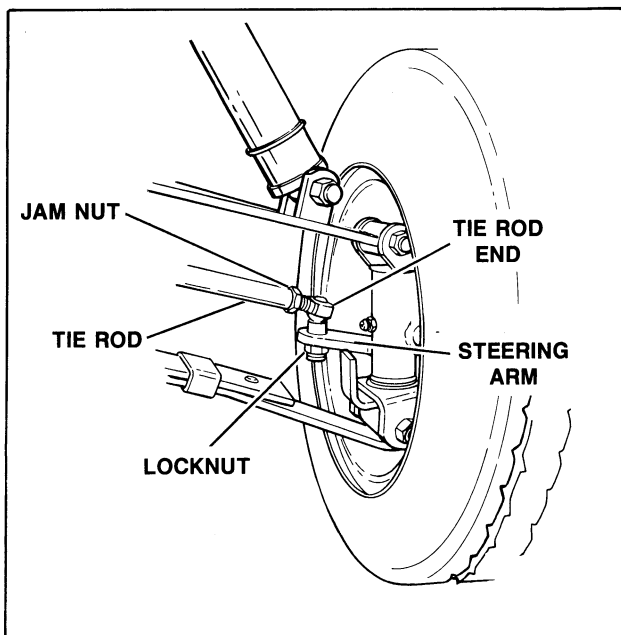

Figure 12 – Tie Rod Removal
8. TIE ROD REMOVAL (Figure 12)